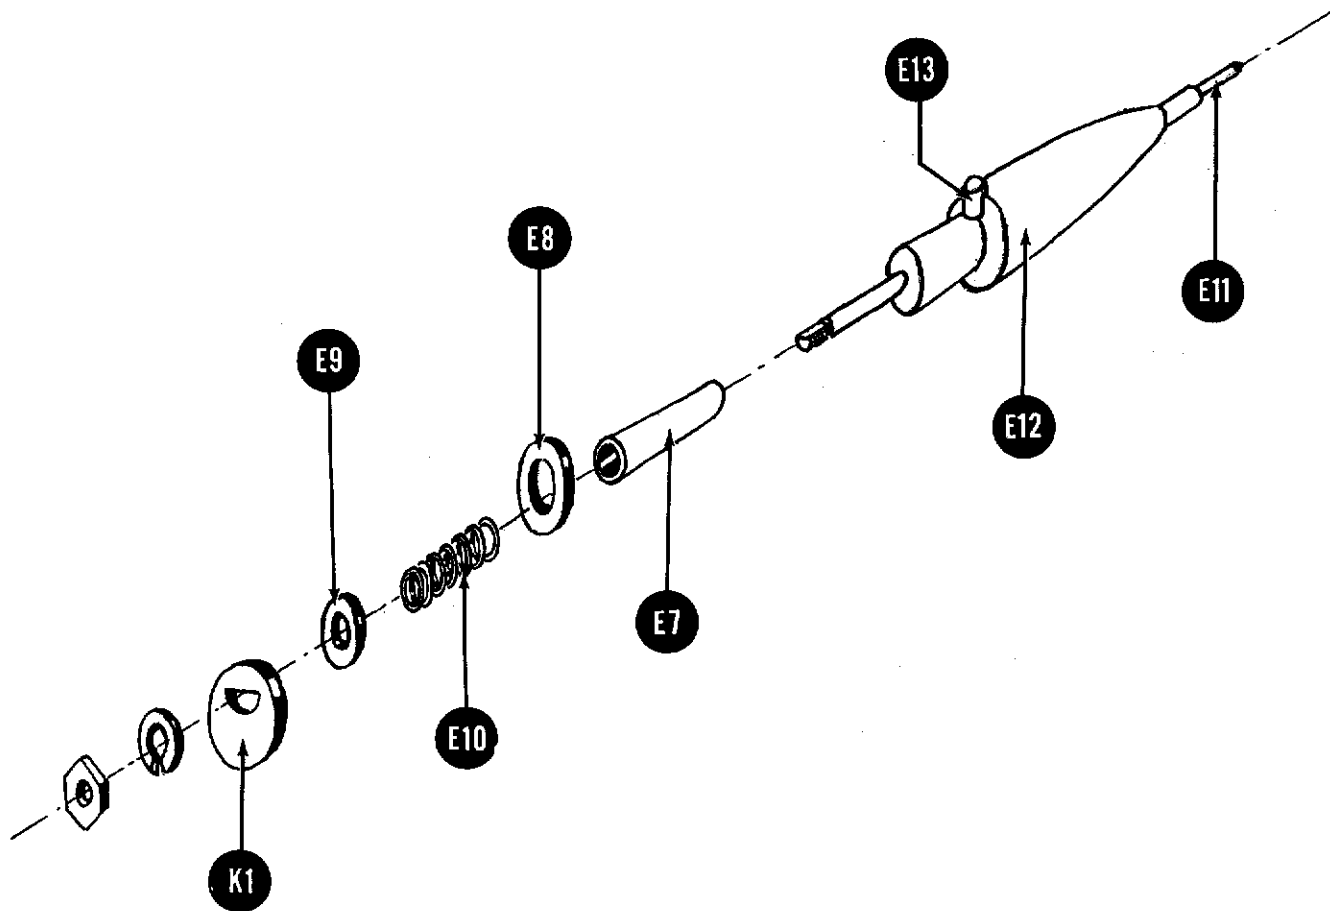

Fig. 8
- () Fig. 8. Slip the small diameter fiber tube E7 over the metal stud E11 protruding from the nose-piece assembly.
- () Fig. 8. Slip the large diameter fiber washer E8 over E7 and seat it on the blunt-end of the nose-piece E12.
- () Fig. 8. Slip the compression spring E10 over the fiber tube E7.
- () Fig. 8. Hold the spring E10 compressed so that the threaded end of the metal stud E11 is exposed. In the order given, slip the following parts over the threaded end of the stud: the small diameter fiber washer E9, the brass rotor contact K1, a #6 split washer, and a #6-32 hex nut. Tighten the nut and then release the spring.